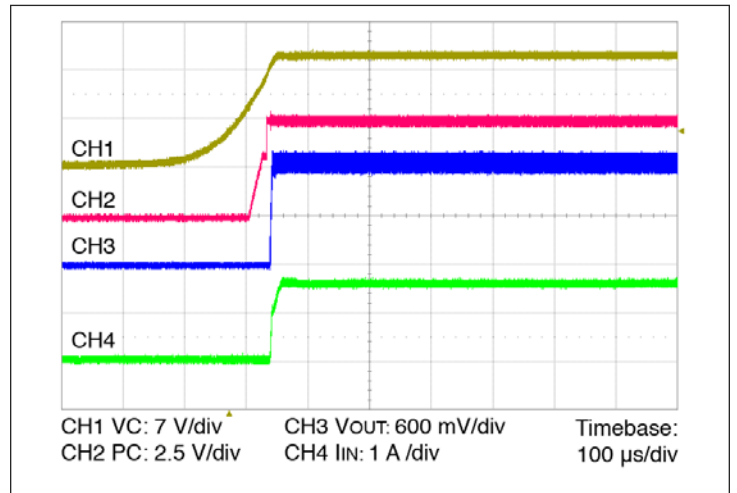

Figure 14 — Start up from application of VC; V_{IN} pre-applied $C_{OUT} = 0 \mu\text{F}$
- Stand Alone Operation (VC applied after V_{IN}): In this case the module output will begin to rise upon the application of the VC voltage (See Figure 14). The Adaptive Soft Start circuit (See Section 10) may vary the output rate of rise in order to limit the inrush current to its maximum level. When starting into high capacitance, or a short, the output current will be limited for a maximum of 900 μ sec. After this period, the adaptive soft start circuit will time out and the VTM module may shut down. No restart will be attempted until VC is re-applied, or PC is toggled. The maximum output capacitance is limited to 5000 μ F in this mode of operation to ensure a successful start.